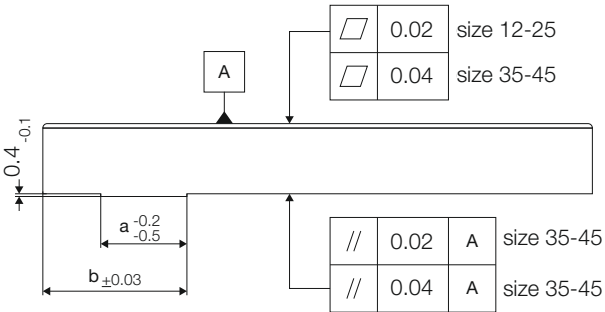

Figure 4: Centering bar
- all forces/moments applied or generated (dynamic/static), (see Figure 4)
Note on the design of the carriage connecting plate: For better alignment during assembly, the roller shoes have centering grooves. For this purpose, a centering bar is attached to the connecting plate (Figure 4). The dimensions for the manufacture of the centering bar are shown in Table 1. All other dimensions, tolerances and accuracies of the guides are given on the respective pages.